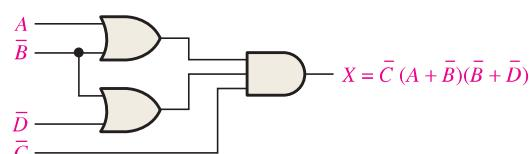

FIGURE 5–75
(c) G_4 output is the inverse of the G_2 output shown in Figure 5–49(b).
- 5–8 See Figure 5–75.
5–10 See Figure 5–76.
5–15 See Figure 5–80.